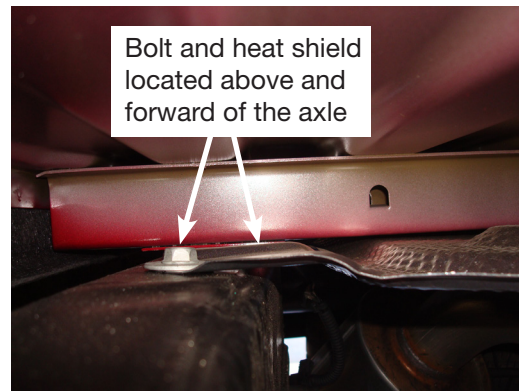

fig. 19
5. Using a ratcheting wrench, remove the bolt that holds the heat shield on the frame above and forward of the axle. Set the bolt aside (fig. 19).
7. For models without a heat shield as shown in Figure 19, set a U-bolt (L) into position around the frame (Fig. 20) and insert the U-bolt (L) through the holes in the upper bracket forward of the axle (Fig. 21).